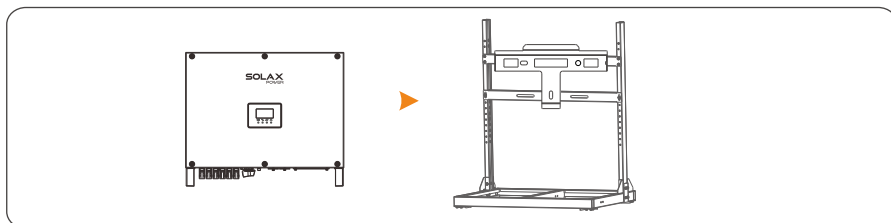

Figure 4.11 Mounting the inverter
Step 2 Mount the inverter on the rear panel and keep them aligned with each other, as shown in Figure 4.11.